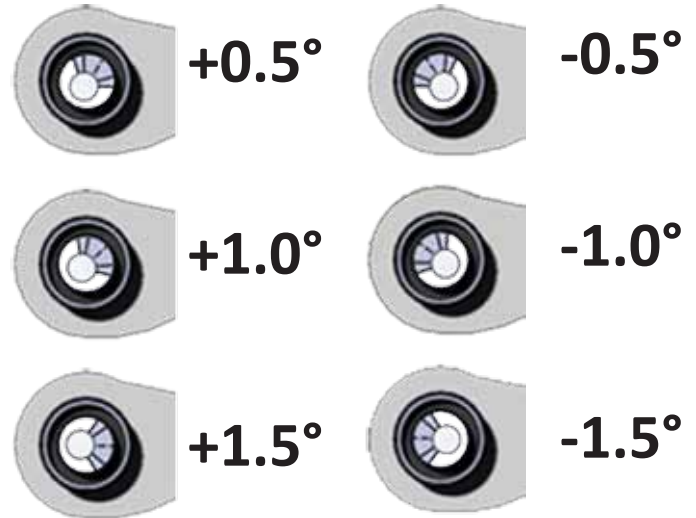
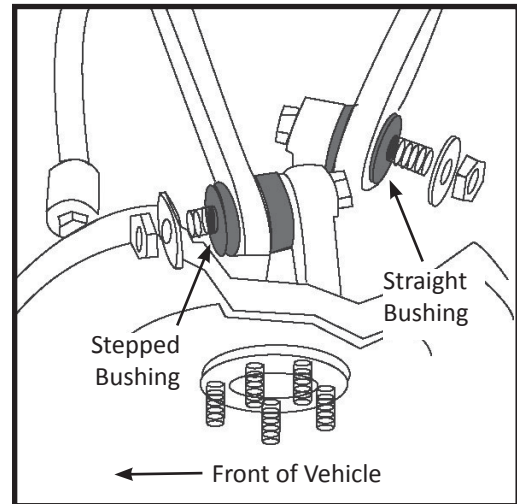
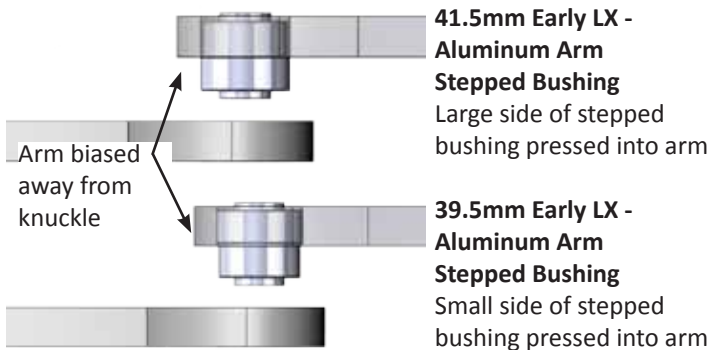

Figure 1
Figure 2
Figure 3
Note: Desired Camber change can be achieved by clocking the bushing to appropriate index mark as shown in Figure 1. To avoid binding and setback changes, the bushings in both forward and rearward upper arms must be oriented for the same amount of positive or negative change.
5. Properly index and press the bushing into both arms. The forward (shorter) arm uses the stepped bushing, which must be installed as shown below (Figure 2). Press the appropriate half of the bushing that matches the original diameter into the arm. On older models with aluminum arms, this will mean the bushing is offset from the arm (Figure 3). Press in the bushing from the side that will result in the arm being located away from the knuckle when mounted. For lesser change (.5° or 1°), the hole in the bushing should be biased down (Figure 1)